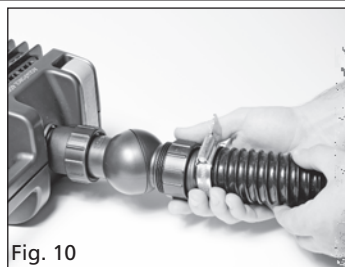

Fig. 10
11. Screw the hosedetail directly onto the outlet boss of the ball joint (Fig 10). The ball joint can be rotated to allow the hose to be directed away from the pump.